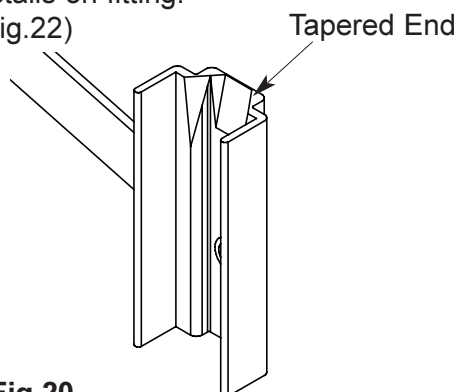

Fig.20
- Fit the metal stays into the jambs via the slotted openings, making sure the glider orientation is correct. The tapered inner edge should be positioned facing up, this is to help the glider ride over the end of the balance. (Fig. 20)